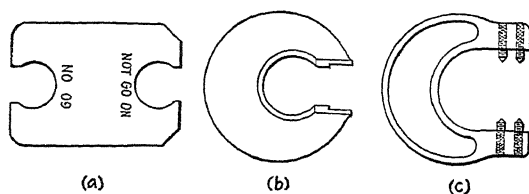

FIG. 62.—Types of limit snap gauges.
Fig 62 illustrates three styles of limit snap gauges. It will be understood that for rough turning, the difference between the “go on” dimension and the “not go on” dimension is much greater than could be allowed in the finishing operation, and further, in different classes of work the limits allowed for finishing vary greatly. The advantage of the gauge shown at (c) lies in the fact that it is adjustable.
6. In the limit gauges illustrated in Fig. 62, why are the "not go on" gauging surfaces smaller than the "go on" surfaces?